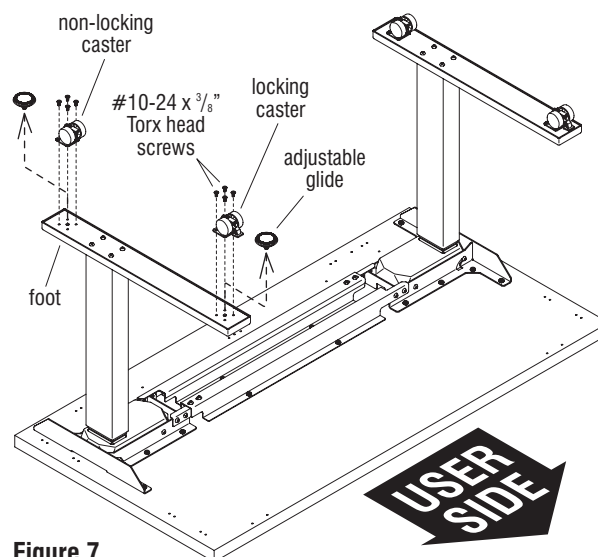

Figure 7
12. If casters are required, twist both adjustable glides out of each foot. Locking and non-locking casters are supplied. Locking casters should be located toward the front, user side of the table for easy access while the non-locking casters are located to the back. Using four #10-24 x 3/8 inch Torx screws per caster, carefully secure the casters to the feet (Figure 7 & Detail I).